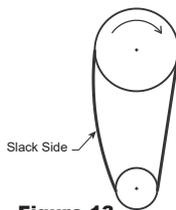

Figure 13
- 8a. Belts should be tensioned just enough to prevent slippage at full load. Belts should have a slight bow on the slack side while running at full load; see Figure 18a. 8b. Sizes 180-480: Belt tension should be adjusted to allow 1/64 in. (0.397 mm) of deflection per inch of belt span. For example, a 15 in. (381 mm) belt span should have 15/64 in. (5.95 mm) (or about 1/4 in. (6 mm)) of deflection with moderate thumb pressure at mid-point between pulleys, see Figure 13.
Models 2RB65, 2RB66, 3ATT8, 3ATT9, 56MW66, 56MW67, 56MW68, 4YY13, 4YY14, 4YY15, 56JN91, 56JN92, 5DVL4, 5DV06, 6KWJ9, 16D522, 16D523, 16D524, 56MW60, 20FT09, 20FT14, 56MW63, 56MW64, 56MW65: Belts should be tensioned just enough to prevent slippage at full load. Belts should have a slight bow on the slack side while running at full load. See Figure 13.